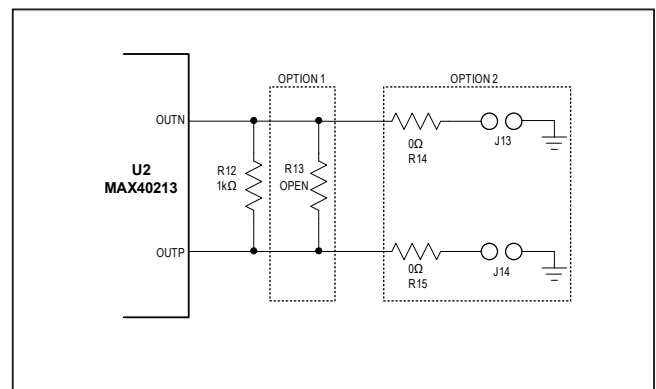

Figure 2. Evaluation Circuit 2—High Impedance Input on Equipment
- 2) Evaluation Circuit 2 (see Figure 2): Before beginning, use resistor R13 pads to install the differential probes.
The MAX40213 outputs are connected to a 1kΩ load differentially. The default position is option 1 and uses resistor R13 pad for probing purposes. Option 2 allows the user to install 0Ω at resistor R14 and R15. Use FET probes to monitor at the 2-pin headers J13 and J14 (see Figure 2).